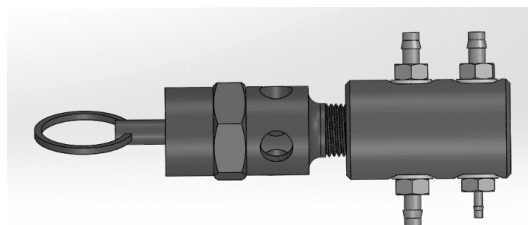

Fig. 4
- 4 If the safety relief valve that is being replaced has four connections for tubing (Fig. 4), no modification to the safety relief valve is required.